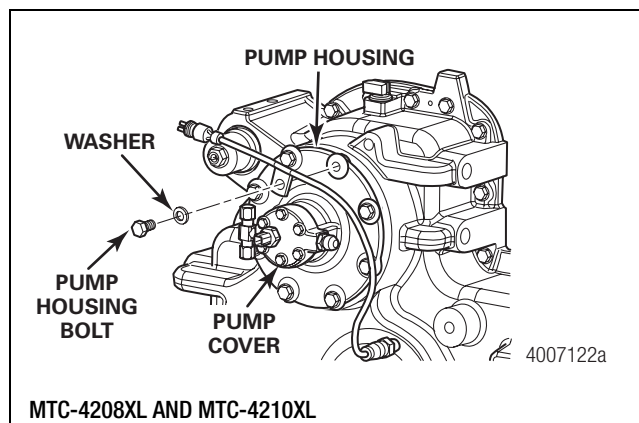

Figure 4.6
2. Remove the pump housing washers and bolts. Remove the pump housing and cover. Figure 4.6.